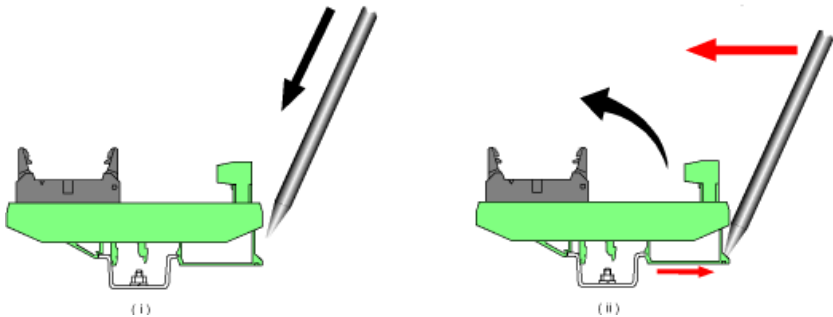

Figure 6 : How to remove a Hardware Interface Module from the PSS.
4. Insert a flat-blade screwdriver in the groove indicated in Figure 6 (i) and gently prise the securing clip open by pressing the screwdriver in the direction indicated by the red arrow in Figure 6 (ii).